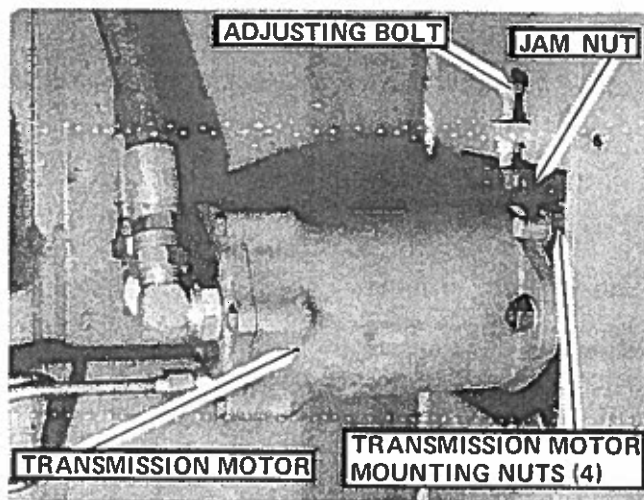

FIGURE 54
4. Loosen the four transmission motor mounting nuts, see FIGURE 54, and the adjusting bolt jam nut.